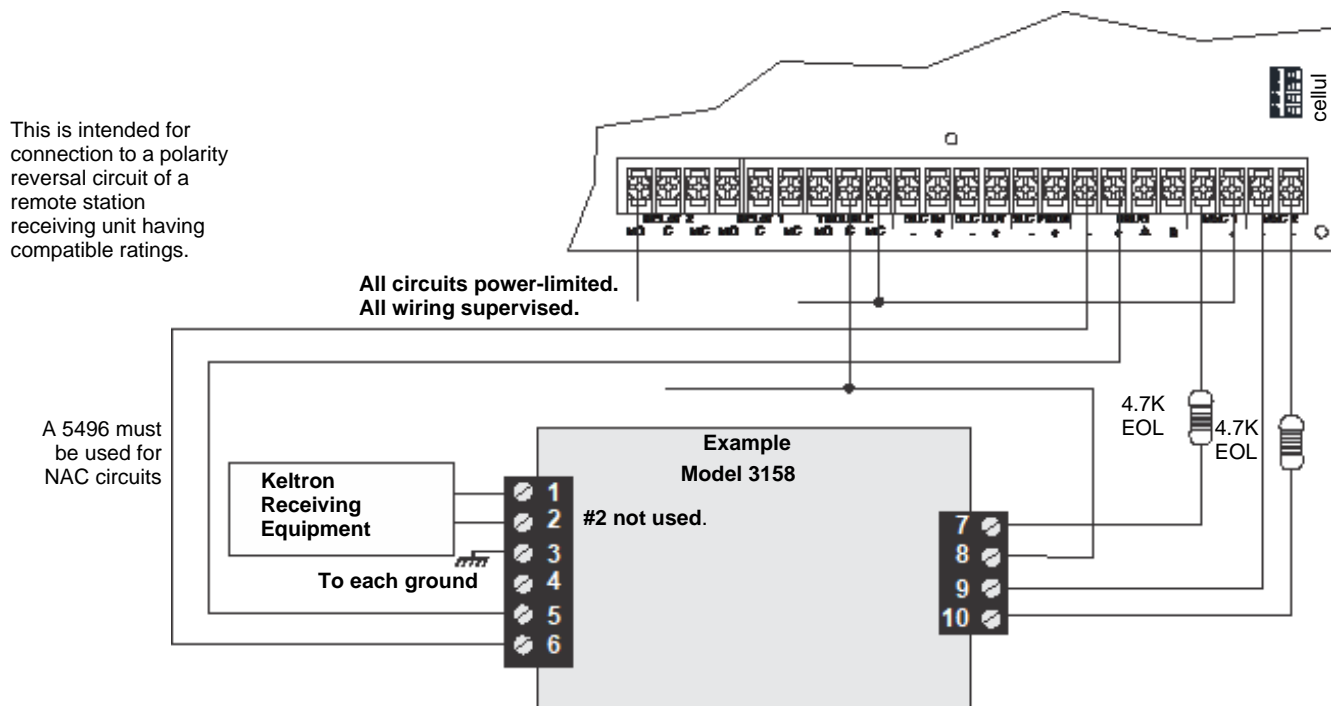

Figure 4.49 Keltron 3158 Connection to Control Panel
1. Wire the 3158 to the control panel as shown in the connection list and .Figure 4.49